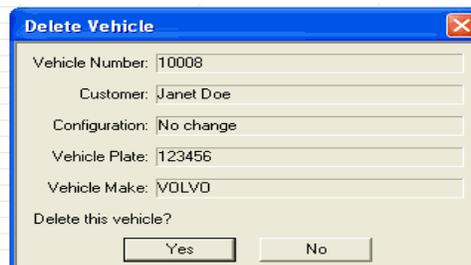

Figure 1.6C
c) To delete a vehicle, click on the blank clipboard that is marked with an 'X' . A message box will appear to confirm your deletion. See figure 1.6C. You cannot delete a vehicle if transactions have already been done in the program.